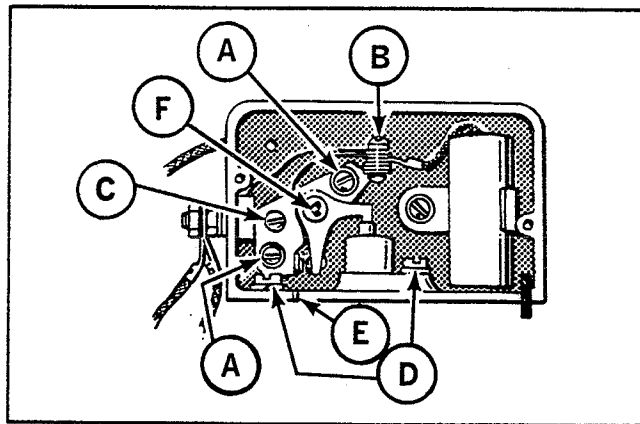
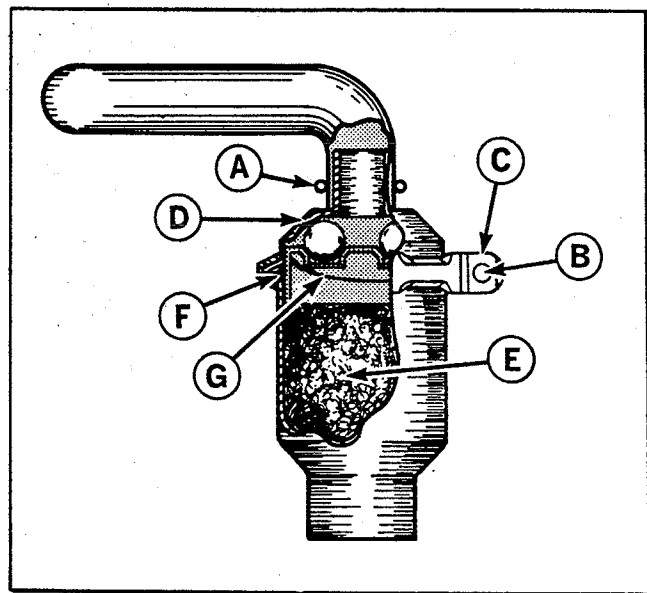

Figure 30. Breaker point box.
Figure 32. Crankcase breather.
5. See figure 30. Remove the two mounting screws marked (A) and pull the points out of the box just far enough so screw (B) can be removed.
6. After removing screw (B) replace the points with a new set. Replace, but do not tighten the two mounting screws (A).
7. Rotate the engine clockwise (as viewed from the rear) by turning the engine cooling fan by hand until the points open. The flywheel should be about 1/4 turn after top center. Turn the screw (C) until the distance between the points measure 0.020 inch with a flat thickness gauge.
9. Set the ignition timing as outlined in the following section. **NOTE: EACH TIME NEW BREAKER POINTS INSTALLED, PLACE A DROP OF OIL ON POINTS PIVOT POINT (F).**
6. See figure 30. Attain an approximate setting by loosening mounting screws (D) and shift breaker box (and spacer if used) to align reference marks (E) on crankcase and breaker box (or spacer).
8. Slightly loosen two mounting screws (A) in figure 30 to adjust point gap to 0.020 inch.
9. Start engine and check timing. With two screws (D) slightly loose, breaker point box can be moved left to advance spark and right to retard spark (as you face breaker point box from front of engine).
**CLEAN CRANKCASE BREATHER VALVE:** See figure 32. The crankcase breather valve should be removed and cleaned every 200 hours or more often under dusty operating conditions. Proceed as follows:
1. Remove the hose clamp (A) and hose from the breather.
2. Turn the clamp screw (B) counter-clockwise to loosen the clamp.
3. Remove the clamp (C), breather cover (D), O-ring (F), screen (G), and breather filter mesh (E).